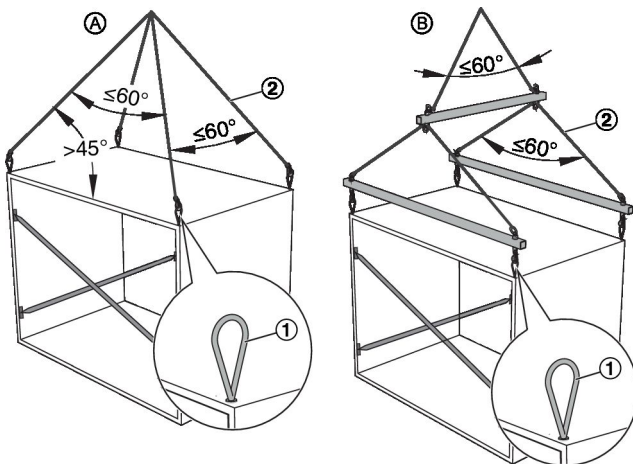

Fig. 6: Using lifting eyes for moving units with a crane
- (A) Moving units with ropes/chains
- (B) Moving units with a spreader beam
- (1) Lifting eye
- (2) Slings
- ▶ Insert all lifting eyes ( Fig. 6 /1) completely into the threaded holes.
- ▶ Hook the slings ( Fig. 6 /2) into the lifting eyes.